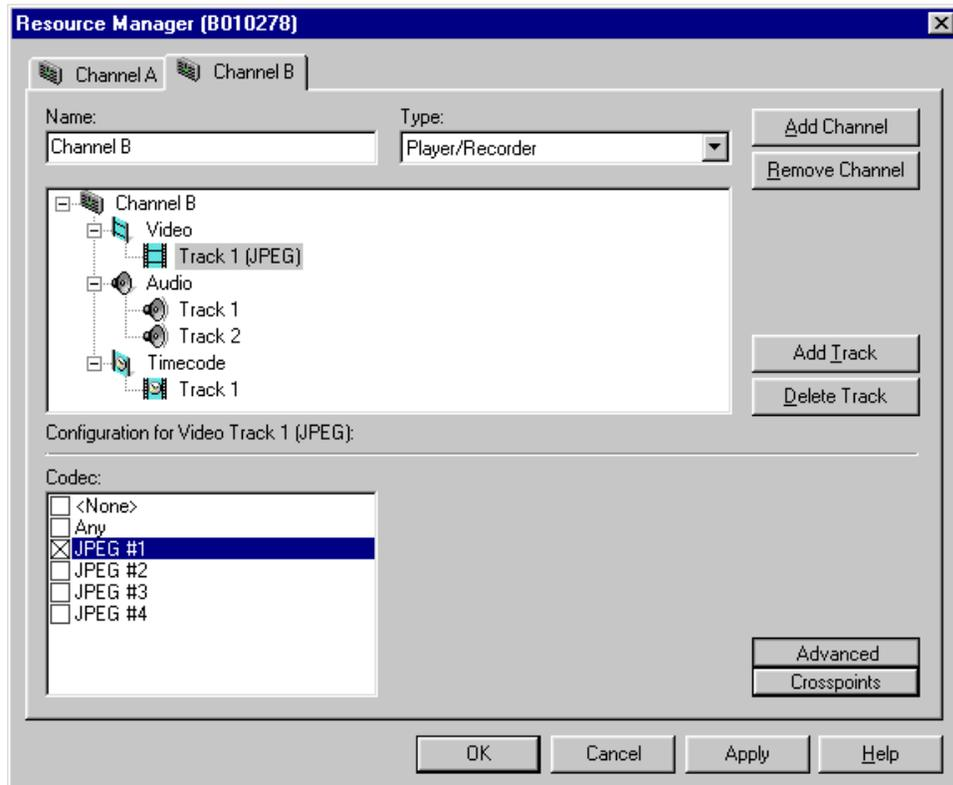
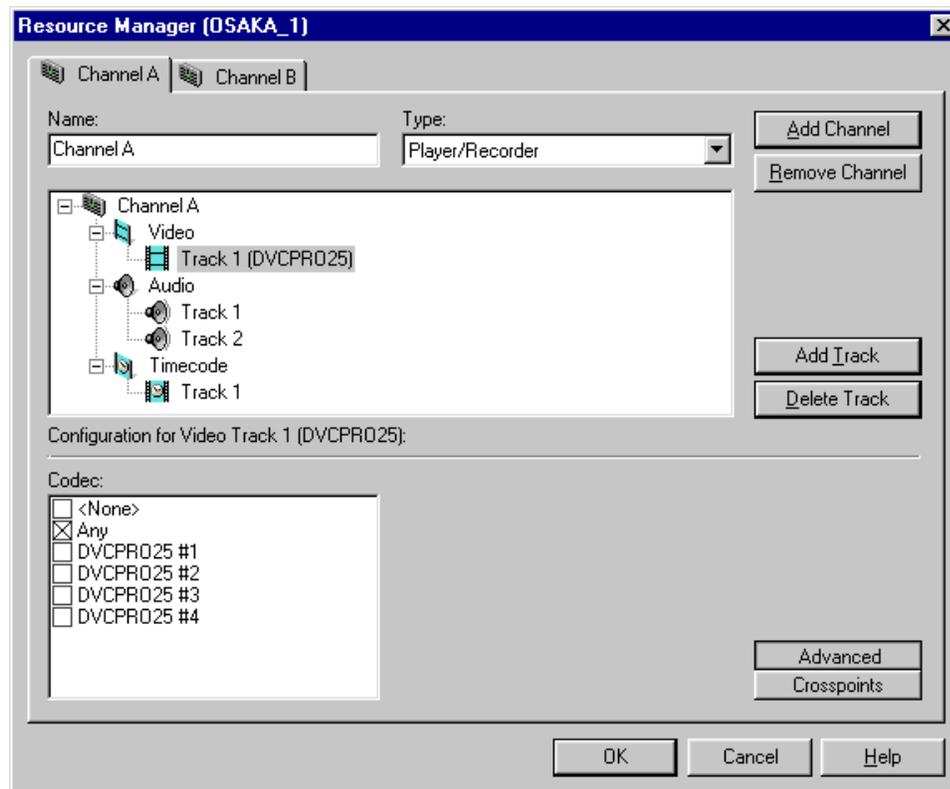

Figure 152. JPEG codec check boxes
Figure 153. DVCPRO codec check boxes
8. Click the **Advanced** button and make your codec selection for JPEG (see Figure 152) or DVCPRO (see Figure 153). You can choose only one video codec at a time.